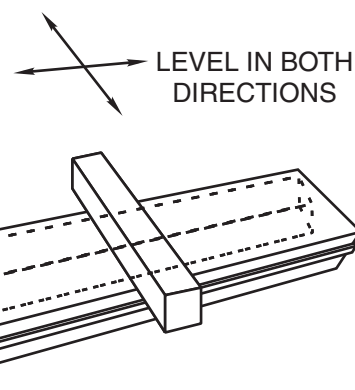

Figure 4
10. Place bubble level on top of closer spindle and torpedo level. See Figure 4 at right.